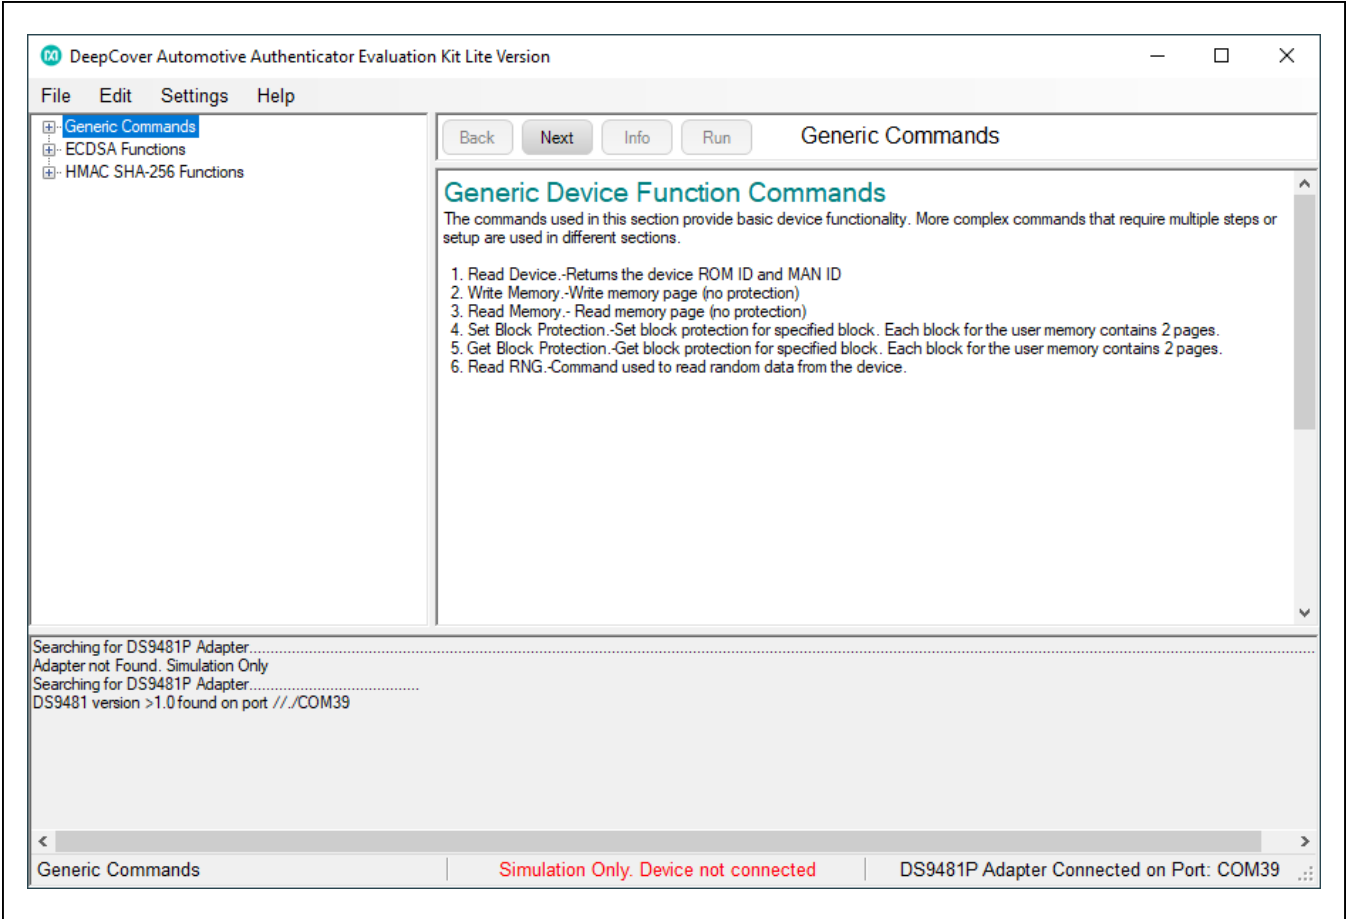

Figure 7. DS28E30 EV Kit Program (Default View Upon Opening)
- the lower right corner of the window to verify connection (Figure 7).